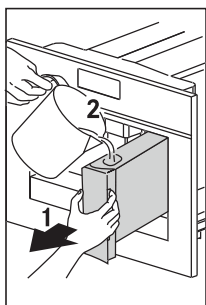
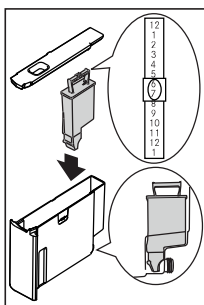

Fig. 11
Fig. 37
- After 5 seconds, the appliance displays "FILL TANK". Extract the water tank (Fig. 11), rinse and fill with fresh water without exceeding the MAX line. Replace and push as far as it will go. A water softener filter can be installed in the tank (Fig. 37).